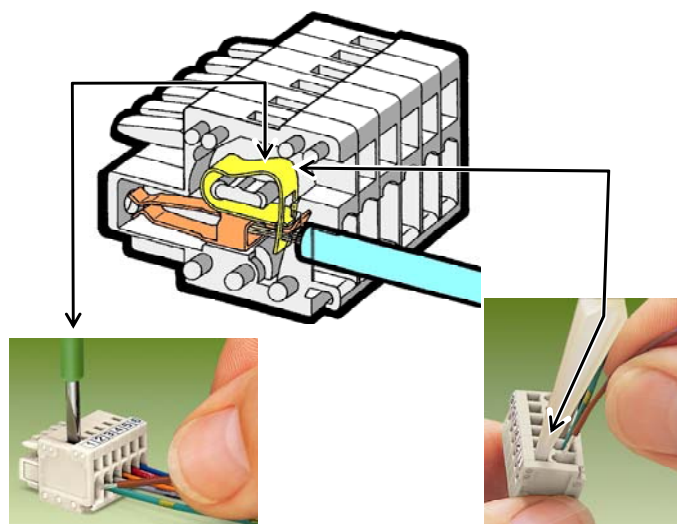

Fig. 9 Mounting plug strips
1. Press down the cable clip as shown in Fig. 9 using a small screw driver or the WAGO liner tool.